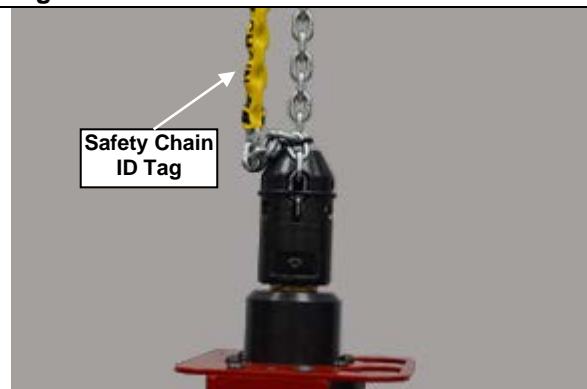

Figure 2-13
- 5) Install the bolt provided into the bottom bolt hole in the chain nest and through the last link in the SDS chain. (Refer to Figure 2-13)